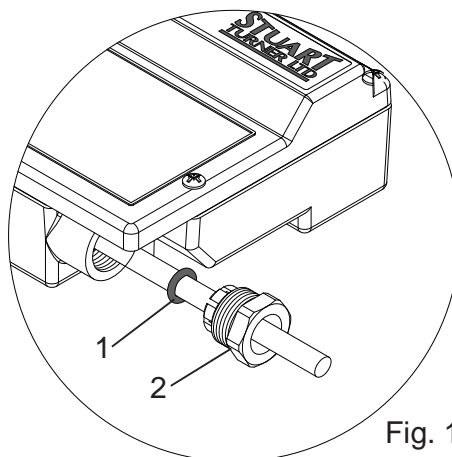

Fig. 19
To enable correct assembly of the cable gland the 'O'-ring (Fig. 19 item 1) must be placed over the cable before the clamping insert (Fig. 19 item 2) can be tightened.